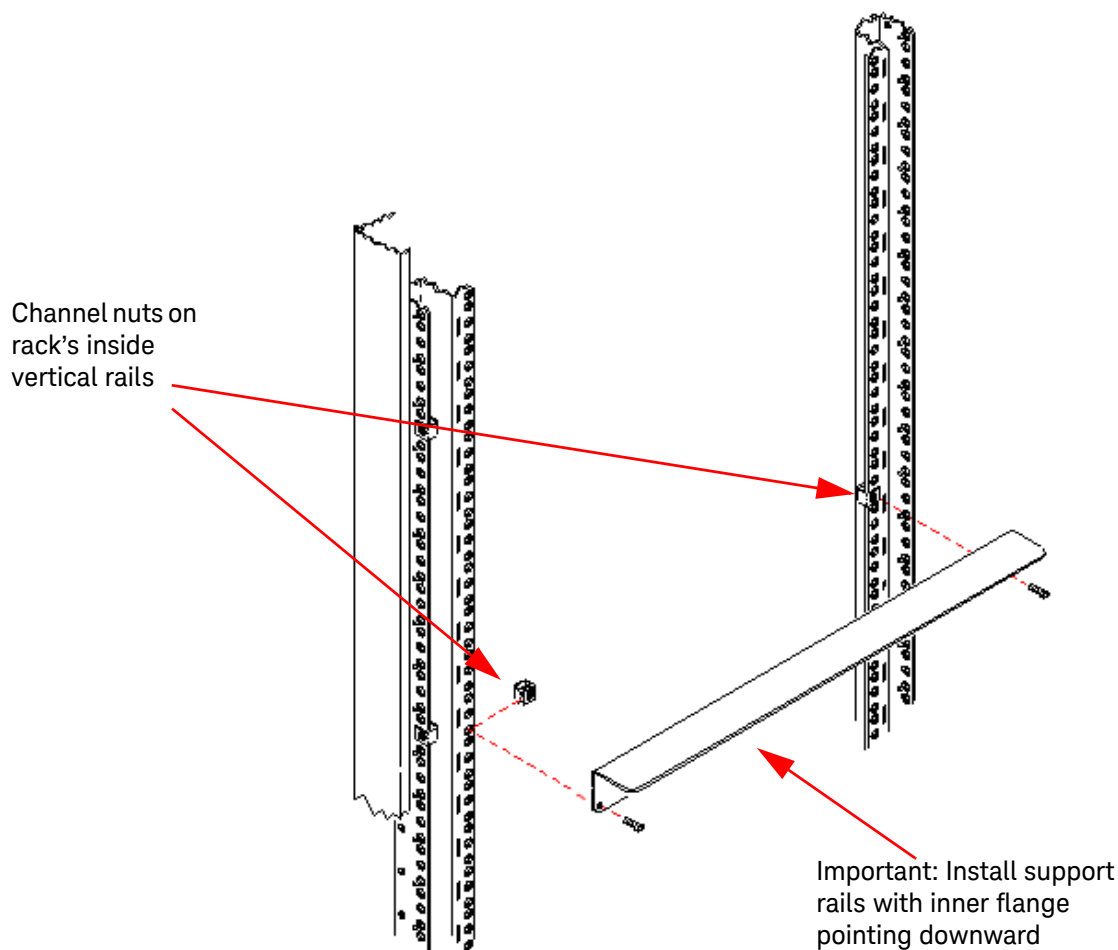

Figure 2 Center Holes of Rack, Attaching Channel Nuts
- 5 Refer to Figure 2. Slide channel nuts over the rack holes to be used by the support rails. The rails must be positioned behind the bottom channel nuts installed for the Y1215B Flush Mount Adapter Kit or the Y1216A Recessed Rack Mount Kit.
- 6 Attach the support rails (with inner flange pointing downward) to the rack's inside vertical columns. Use four channel nuts and the four 10-32 x 0.5 T25 Torx pan head screws as shown in Figure 2.